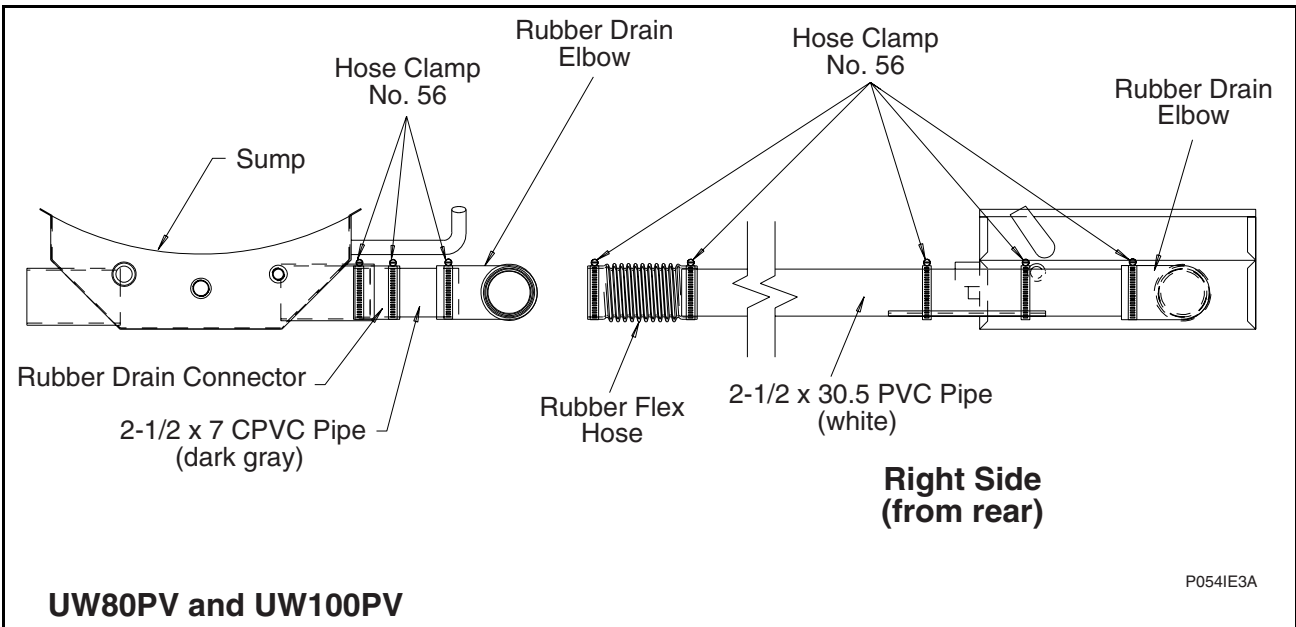

Figure 16
- Replace right drain valve with CPVC pipe (dark gray) included in the kit. See completed drain in Figures 16 and 17, respectively.